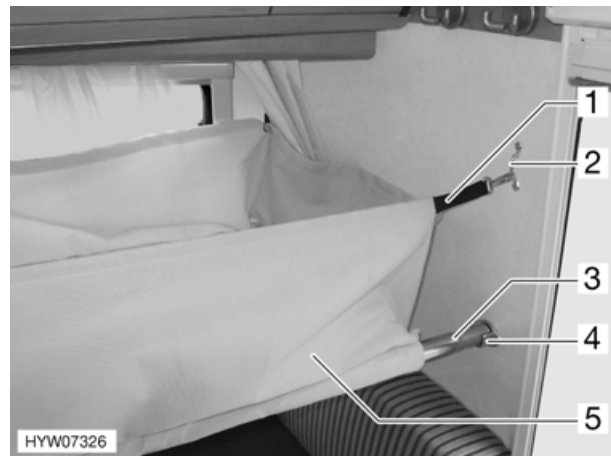

Fig. 29 Hanging bed
- Hang the hanging bed (Fig. 29,5) with the rods (Fig. 29,3) into the holders (Fig. 29,4).
- Hang the hooks of the tightening straps (Fig. 29,1) into the eyes (Fig. 29,2).